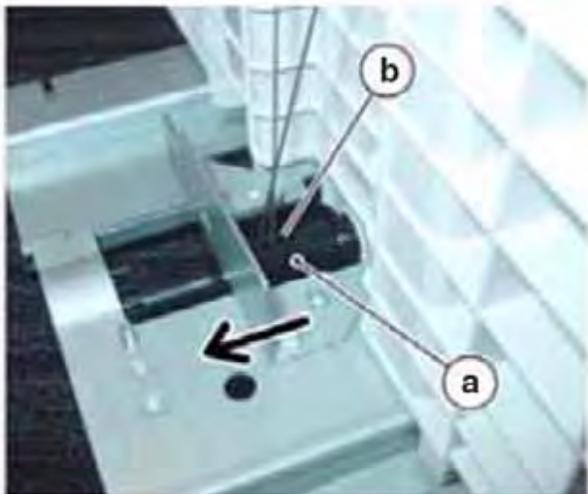

Figure 5 Cable Release
7. Release the Cables from the Shaft (Figure 5):